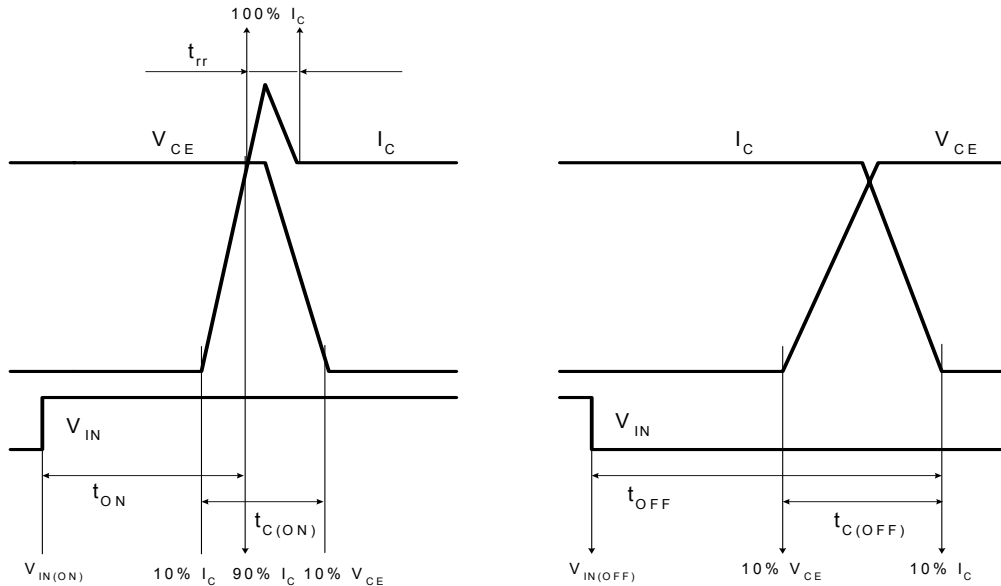

Figure 4. Switching Time Definition
2. t_{ON} and t_{OFF} include the propagation delay time of the internal drive IC. t_{C(ON)} and t_{C(OFF)} are the switching time of IGBT itself under the given gate driving condition internally. For the detailed information, please see Figure 4.